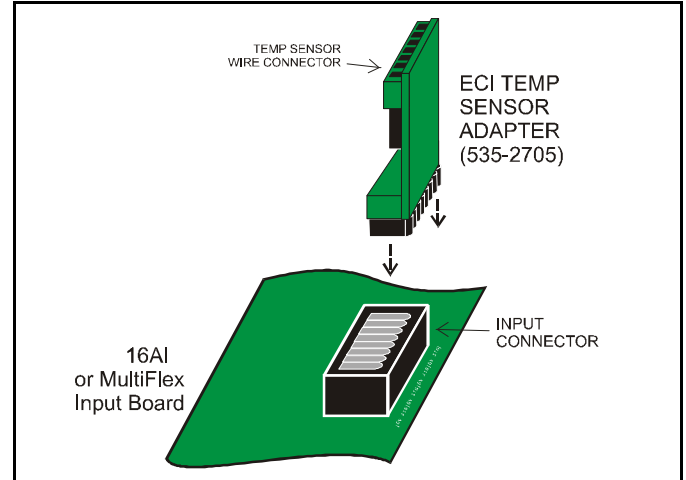

Figure 1 - ECI Temp Sensor Adapter
4. Plug the ECI Temp Sensor Adapter into an 8-pin connector on the input board, as shown in **Figure 1**.